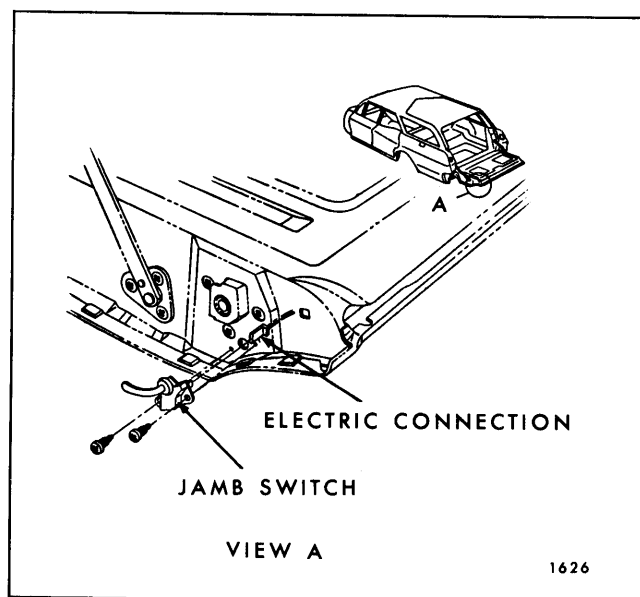

Fig. 9-14—Tail Gate Jamb Switch
1. Remove jamb switch to tail gate attaching screws, disconnect attached feed wire and remove switch (See Fig. 9-14).
**NOTE:** Figure 9-14 illustrates the jamb switch on "B" styles. "A" styles are similar but attached on the right side of the gate.